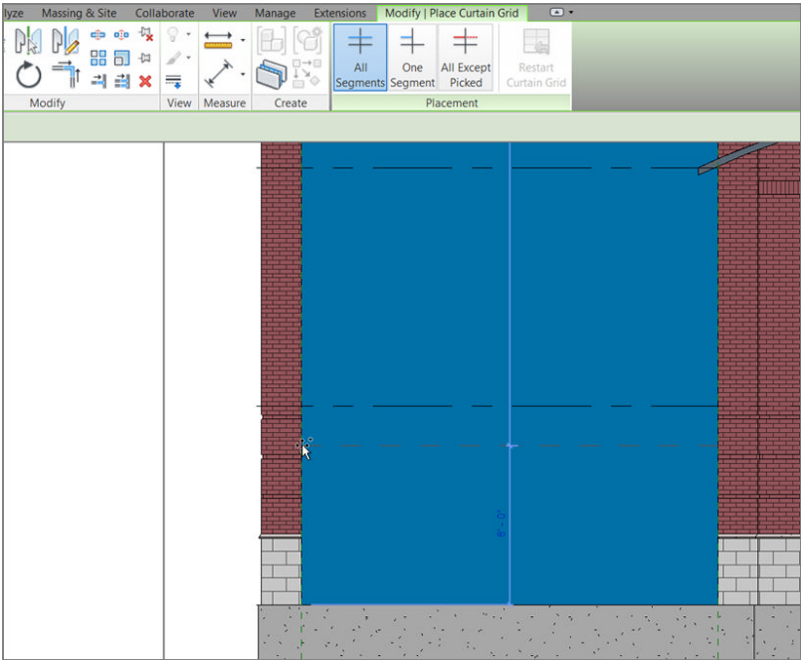

FIGURE 16.31: Picking a point 8'-0" (2400mm) up from the base of the wall
2. On the Modify | Place Curtain Grid tab, click the All Segments button, as shown in Figure 16.31.
3. Move your cursor up the left side of the curtain wall, and pick a horizontal point that is 8'-0" (2400mm) up from the base of the wall (see Figure 16.31).